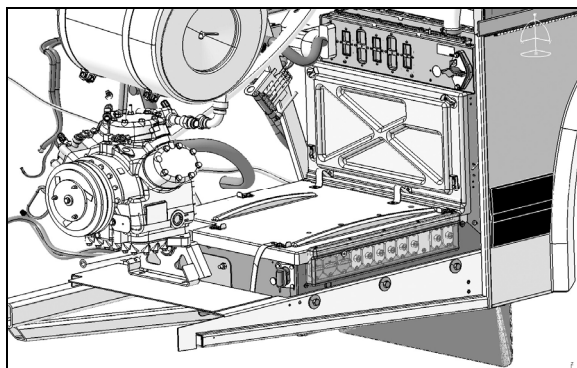

FIGURE 14: BATTERY PROTECTIVE COVER
1. Remove or put aside the battery compartment protective cover (Fig. 14 & 15).